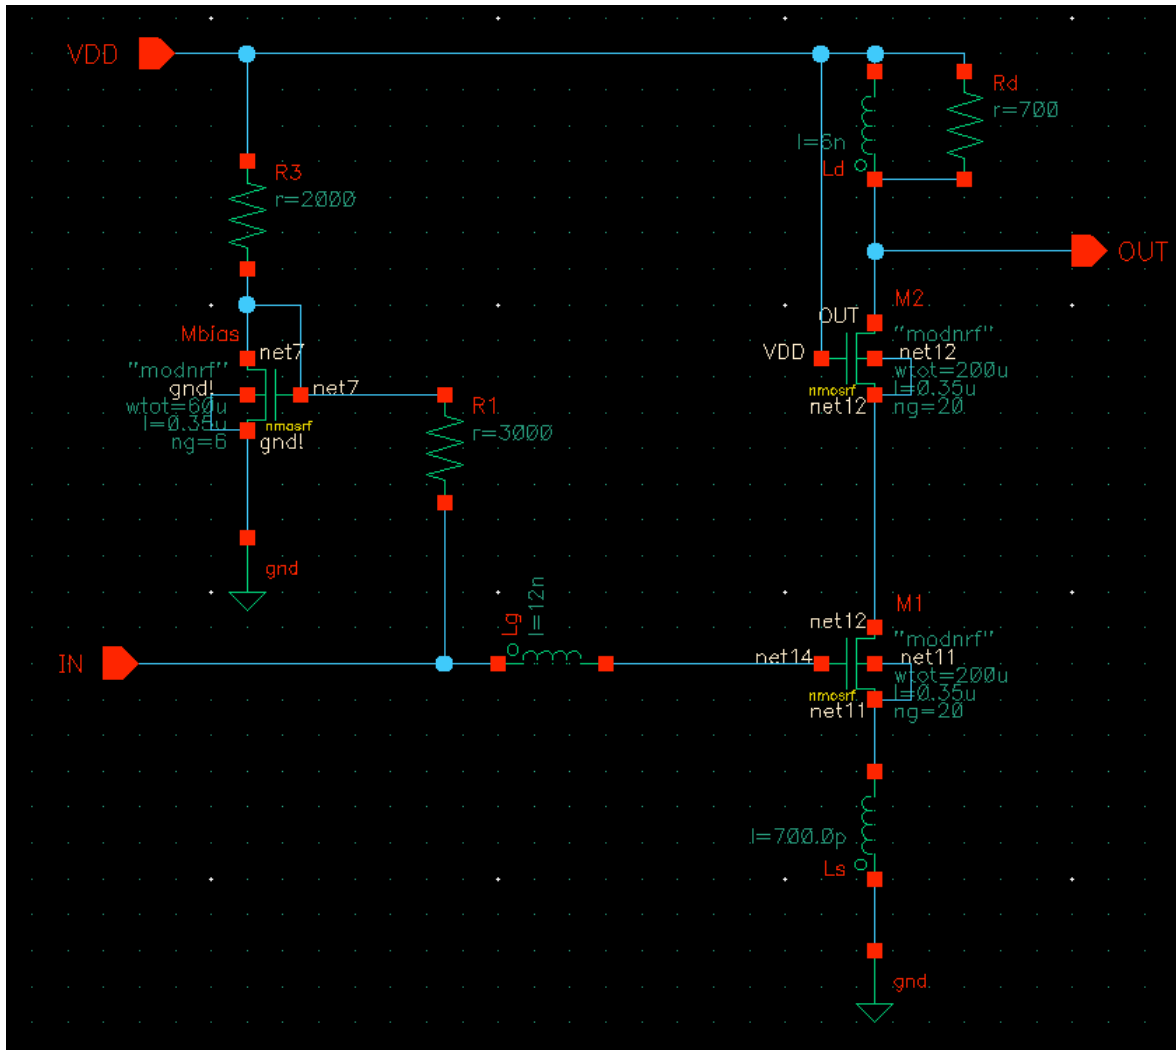

Fig. 1. LNA Circuit Diagram (Source Inductor Degenerated LNA)
- Create and draw the Schematics **LNA** as shown in Fig. 1. The components values are listed below.